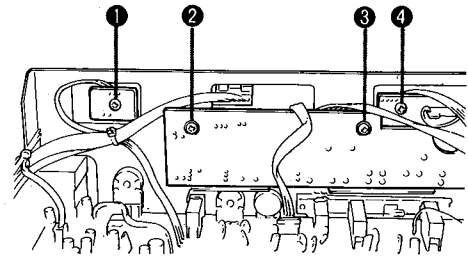

Fig. 4
1. Remove the screw ① in Fig. 4 and then remove the dolby NR indicators P.C. board.
3. Remove screws ② and ③ in Fig. 4 and then remove the control switches P.C. board.
2. Remove screw ④ in Fig. 4 and then remove the power, rec. and pause indicators P.C. board.